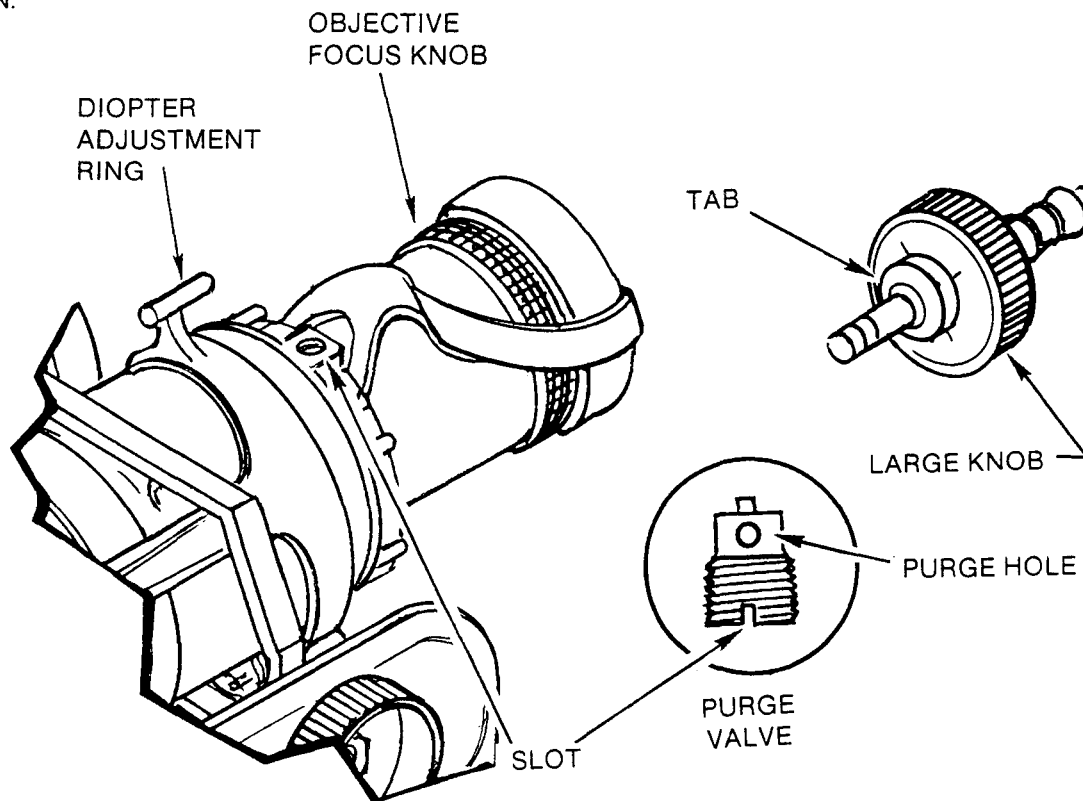

Figure 4-4. Identifying the Tabs and Slots of the Purge Valve.
10. Slowly rotate the objective focus knob counterclockwise until the objective goes to its outermost position (fig. 4-4).
11. Slowly rotate the diopter adjustment ring until the eyepiece is at its outermost position (fig. 4-4).